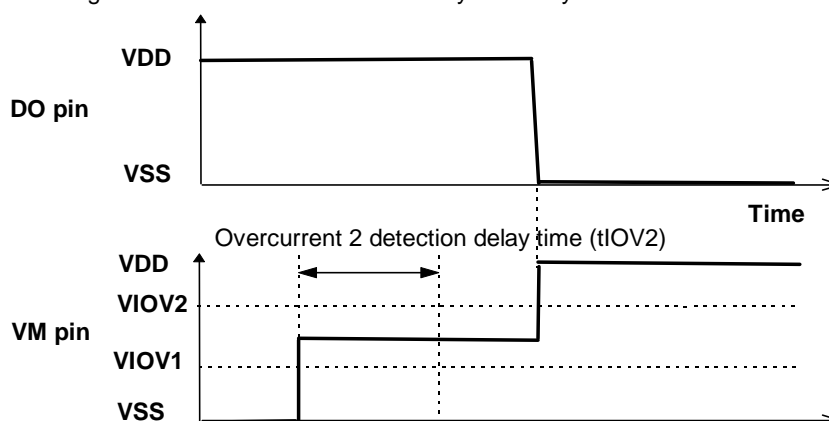

Figure 5
- Counting for the overcurrent 2 detection delay time starts when the overcurrent 1 is detected. Having detected the overcurrent 1, if the overcurrent 2 is detected after the overcurrent 2 detection delay time, the S-8241 turns the discharging control FET off as shown in the figure 5. In this case, the overcurrent 2 detection delay time may seem to be longer or overcurrent 1 detection delay time may seem to be shorter than expected.